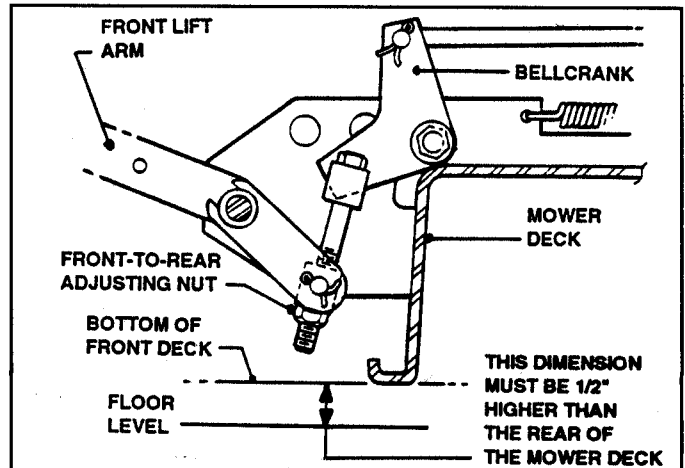

FIGURE 45
- B. After measuring dimensions under front and rear of mower deck, turn the front-to-rear adjusting nut until the front of the deck is 1/2" higher than the rear. See Figure 45.